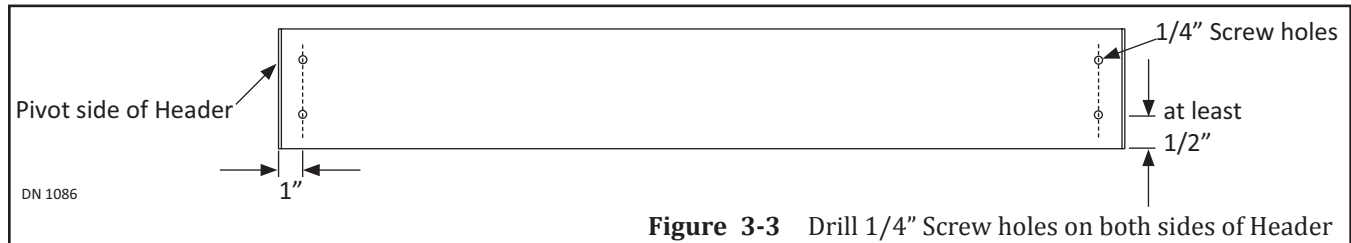

Figure 3-3 Drill 1/4" Screw holes on both sides of Header
3. Measure 1 inch from the End Cap of Header towards the center. Mark a Vertical Line. Please see Figure 3-3.
5. Mark (1) more Horizontal line across the Vertical line directly above the first screw hole. This is the center of the second screw hole. Drill 1/4 inch screw hole. Go to the Strike side of Header. Repeat steps 3 thru 5.